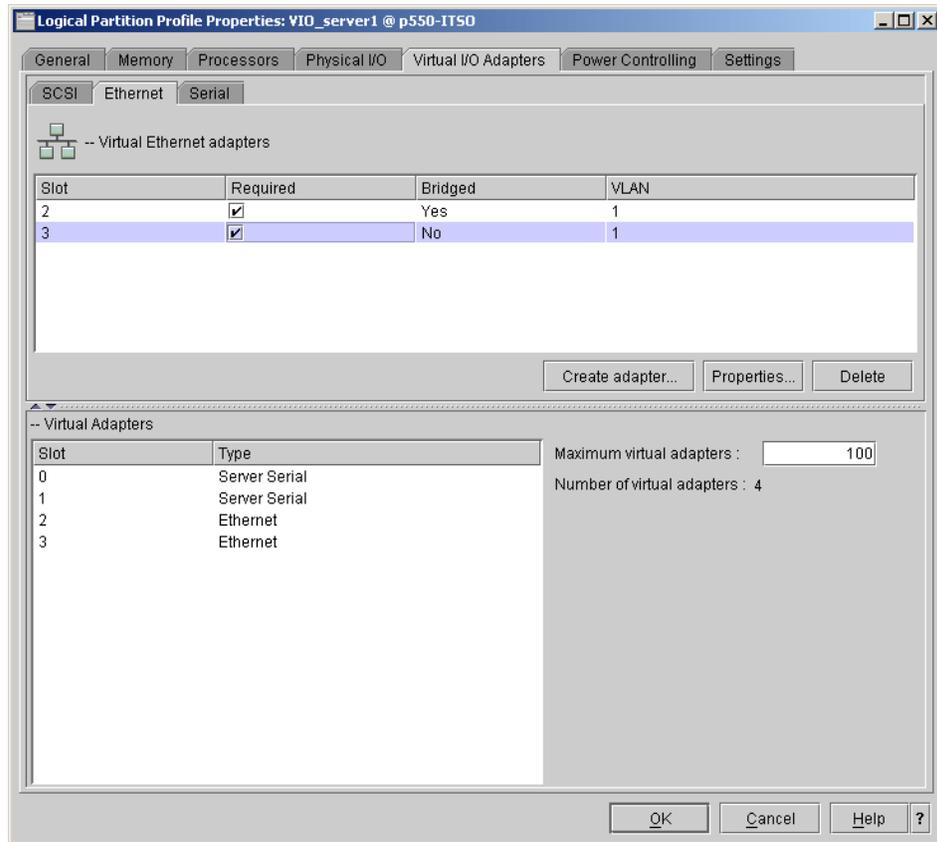

Figure 3-15 New virtual Ethernet adapter tab
4. Click **OK** and the virtual Ethernet adapter is ready for configuration from the command-line interface (CLI) of the Virtual I/O Server. Refer to Figure 3-15.